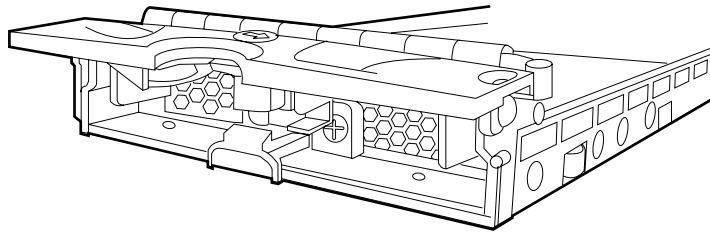

Figure 11. Opening the Drive Tray Door
- b. Press the release button (refer to Figure 11). The front flap opens.